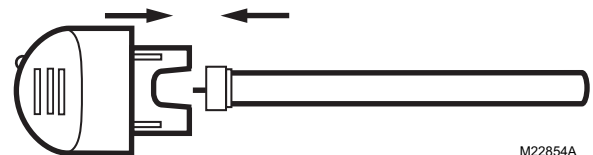

Fig. 19. Replace lamp glass in lamp handle.
- Insert the new lamp glass into the lamp handle by aligning the key and pushing straight together. See Fig. 19.